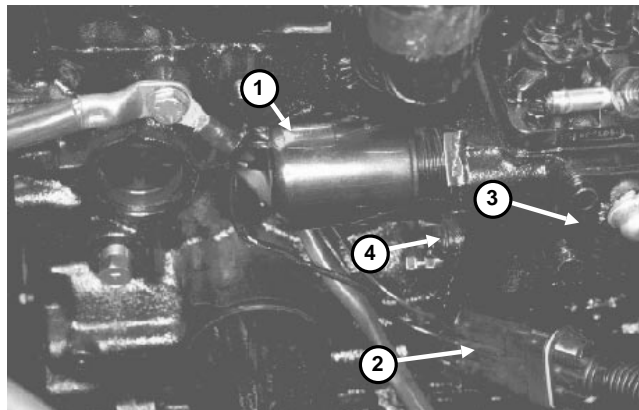

Figure 28
1. Remove the governor tie rod cover (Fig. 28).
6. Remove the cover cap screw from the engine to get access to the solenoid nut (Fig. 28).
2. Remove the governor tie rod cover (Fig. 28).